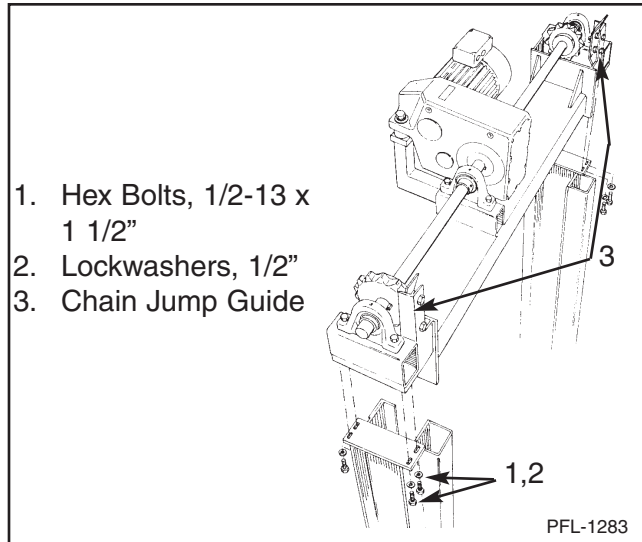
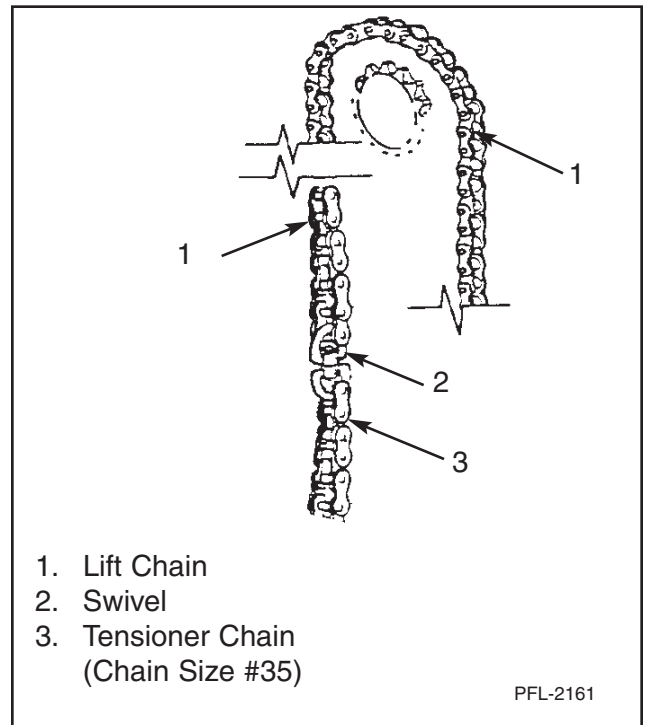

Figure 12
Figure 18
8. Make sure columns are well secured. Raise drive base into position and place over the top of the columns aligning it with the mounting pads at the top of the columns. See Figure 12.
9. Install bolts as illustrated. Snug bolts down. (Tighten enough to allow for adjustment.) See Figure 12.
- Tighten hex bolts on drive base. See Figure 12.
- Remove chain jump guide. See Figure 12. Take a 10' section of the lift chain (larger chain) and install it over the sprocket on the column so that the end of the chain is just above the chain tube at the back of the column. At this time, adjust the sprocket so the chain goes down the center of the chain tube. Take the #35 chain and divide it equally into two sections (one for each column). Mount the swivel to one end of the #35 chain using the masterlink. See Figure 18.
3. Reinstall chain jump guides. See Figure 12. If chain rubs on the guides, adjust.